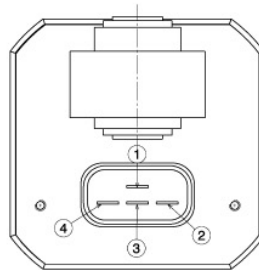

Fig.9
- 6) Open the door manually to the desired open position, slide the collar stopper along the arm **(Fig.9 Page 5)** up to the front cover plate, fixing its position with the Allen key. The hydraulic transmission can then be plugged in and started. Re-position the collar stopper to achieve the desired position.